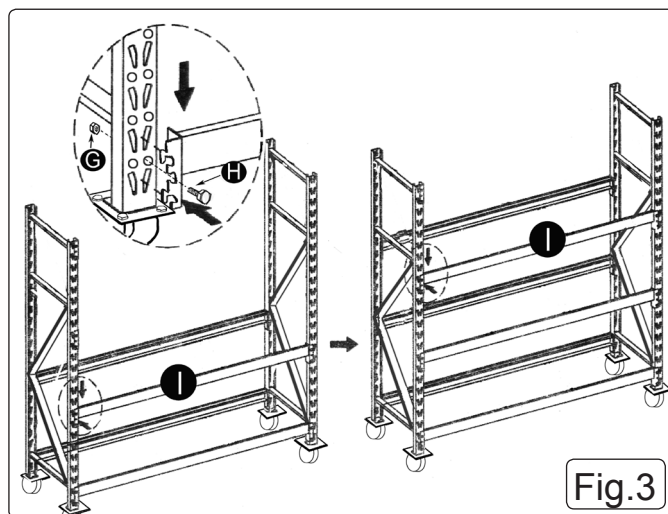

Fig.3
- 4.3.3 See Fig.3. Continue to assemble the next two pairs of cross beams (I) at the heights required. The end frames allow adjustment in 2" increments. Each pair of beams must be mounted at the same height. Ensure that all tabs on the cross beam brackets are fully engaged in the slots in the uprights and that the cross beams are properly tapped down into place then secured with a safety bolt (H) and a M6 nut (G).